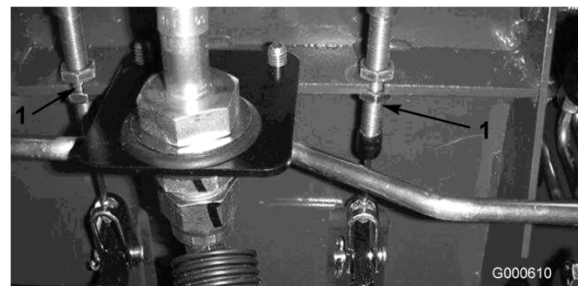

Figure 51
- A. Loosen the front nut on the threaded end of the brake cable (Figure 51).